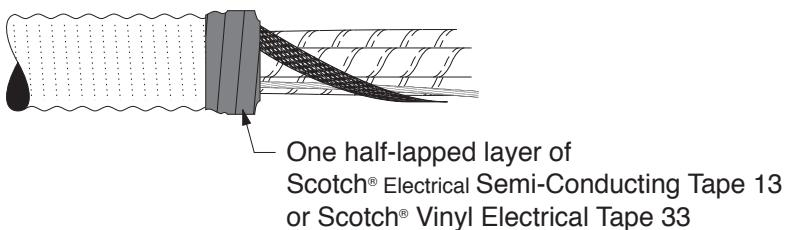

Figure 21
c. Cover constant force springs and edge of armor with one half-lapped layer of Scotch® Electrical Semi-Conducting Tape 13 or Scotch® Vinyl Electrical Tape 33 (*Figure 21*).